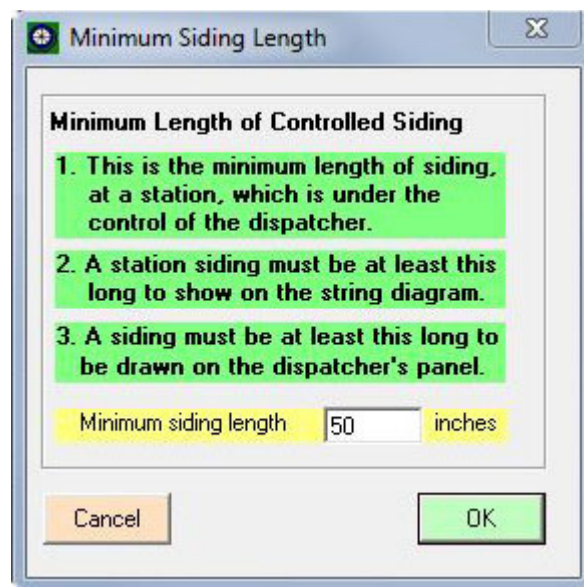

Figure 2-4
- Before we start to make any changes, we need to set up one more item. Down at the bottom of the "Stations on core segment of Middle" window you will see a button marked "Minimum siding length". Click on this and the window shown in Figure 2-4 will appear.